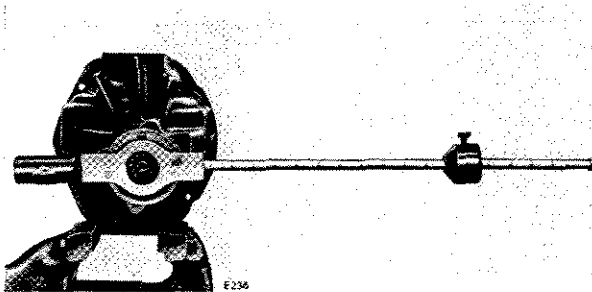

Fig. 82. Pre-load gauge
Fit the pinion head bearing cone (60) on the dummy pinion (Fig. 78) and install the assembly into the axle casing. Fit the tail bearing cone (12), the companion flange (18) and the washer and nut (16) and (23) onto the pinion shaft. Do NOT at this stage fit the spacer (58) or the shims (10). Tighten the nut (16) to pre-load the bearings until a torque of 15-18 lb.ins. will just turn the pinion (Fig.82).
Attach a pre-load gauge to the companion flange (Fig. 82).